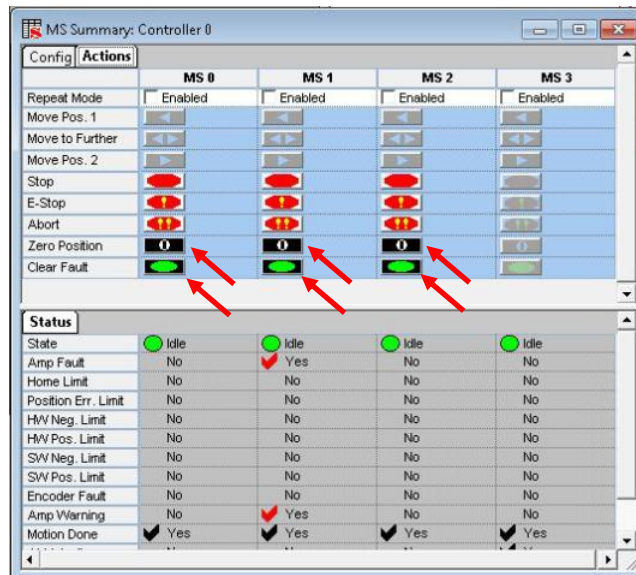
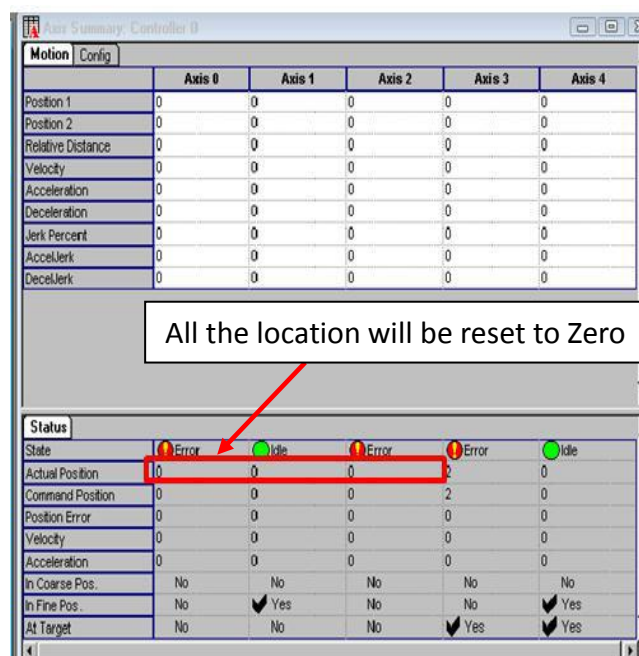

Figure 21 MS Summary
Figure 22 Axis Summary (Actual position)
32. Reset again the Axis 0 become zero as shown in Figure 21 and ensure the actual position for the Axis 0, Axis 1 and Axis 2 become zero as shown in Figure 22.